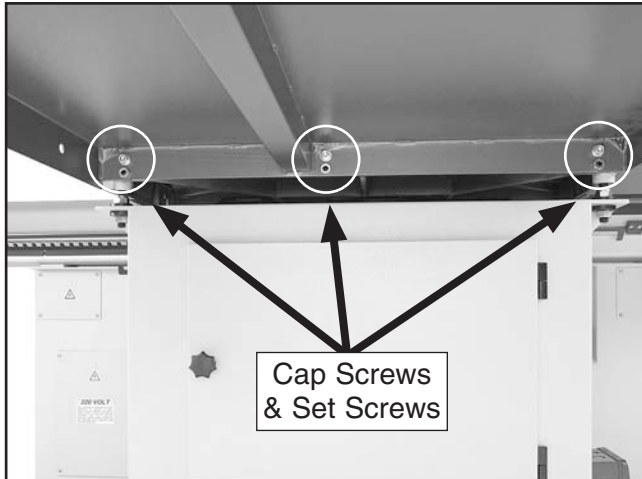

Figure 29. Rear extension wing attached.
27. With the help of two other people to hold the rear extension wing, attach it to the cast iron table with (3) M10-1.5 x 25 cap screws, 10mm lock washers, and 10mm flat washers, as shown in **Figure 29**.